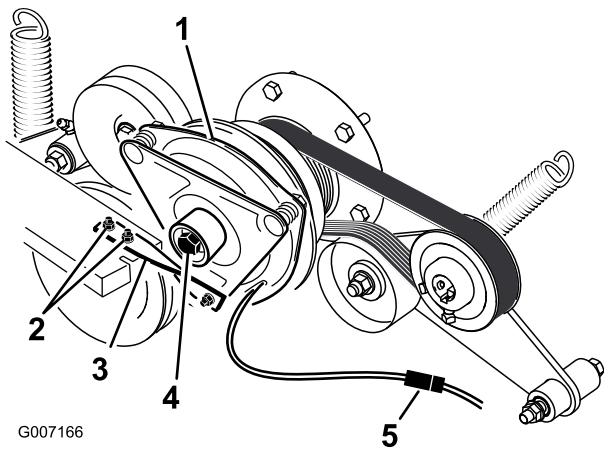

Figure 65
5. Unplug the electric connection for the clutch (Figure 65).
6. Remove the bolts holding the rubber clutch strap to the mower frame (Figure 65).
7. Remove the center bolt holding the clutch to the engine shaft and remove the clutch and key (Figure 65).
14. While holding the crank shaft at the back of the machine, install the center bolt and torque it to 50 ft-lbs (68 N-m) (Figure 65).
15. Install the rubber clutch strap to the mower frame with the two previously removed bolts and nuts (Figure 65).
17. Plug in the electric connection for the clutch (Figure 65).